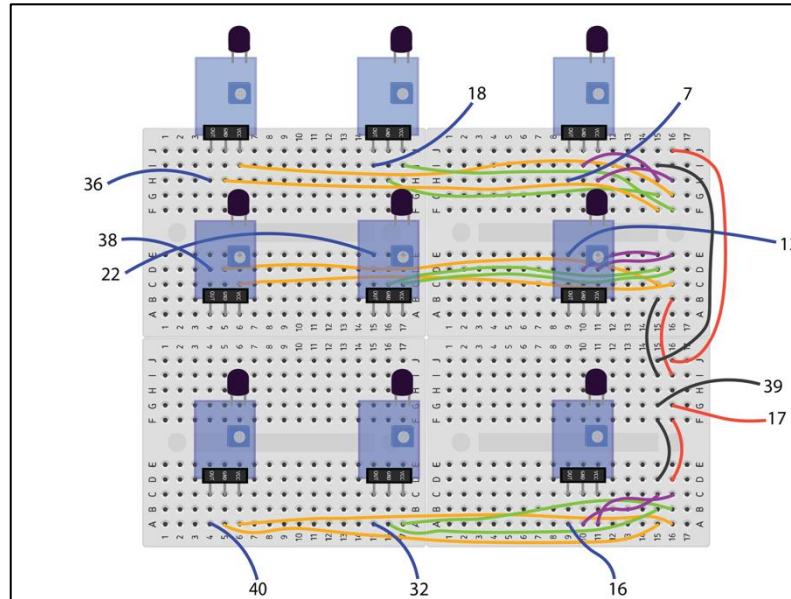

Figure 15. Logic for connecting photodiodes to the GPIO board.
- b. Use female-to-male dupont wires to connect the signal output pin of each photodiode to the GPIO, using connectivity instructions listed below (**Fig. 15**). Each number in **Fig. 15** corresponds to a GPIO pin (**Figs. 11 & 12**).